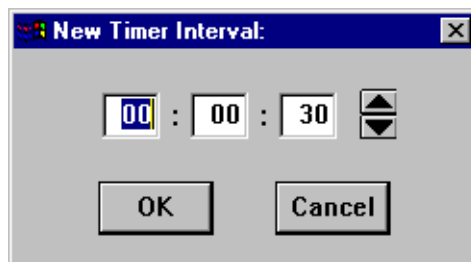

Figure 5-3. New Timer Interval Text Box
1. Click on the clock symbol next to the **Interval** text box. The New Timer Interval text box, Figure 5-3, will appear.